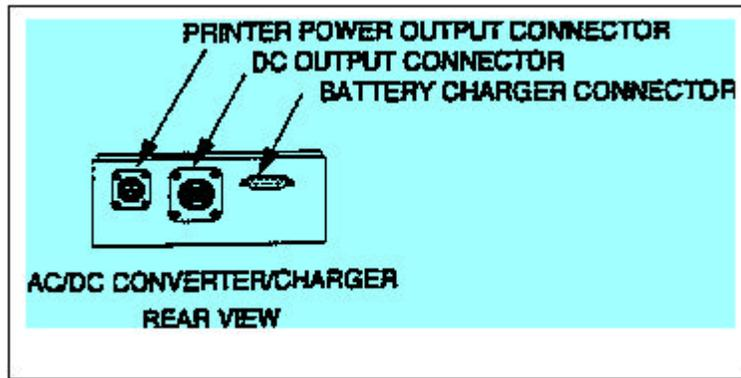

Figure 2: AC/DC Converter/Charger
3. The AC/DC Converter/Charger takes either AC power at 110/220 VAC, 50/60 HZ (Hertz), or DC power within the range of 23 to 33 VDC and converts it to the proper voltages for powering the V2 LC (and simultaneously charging the V2 LC rechargeable battery pack, if installed (See Fig 2).